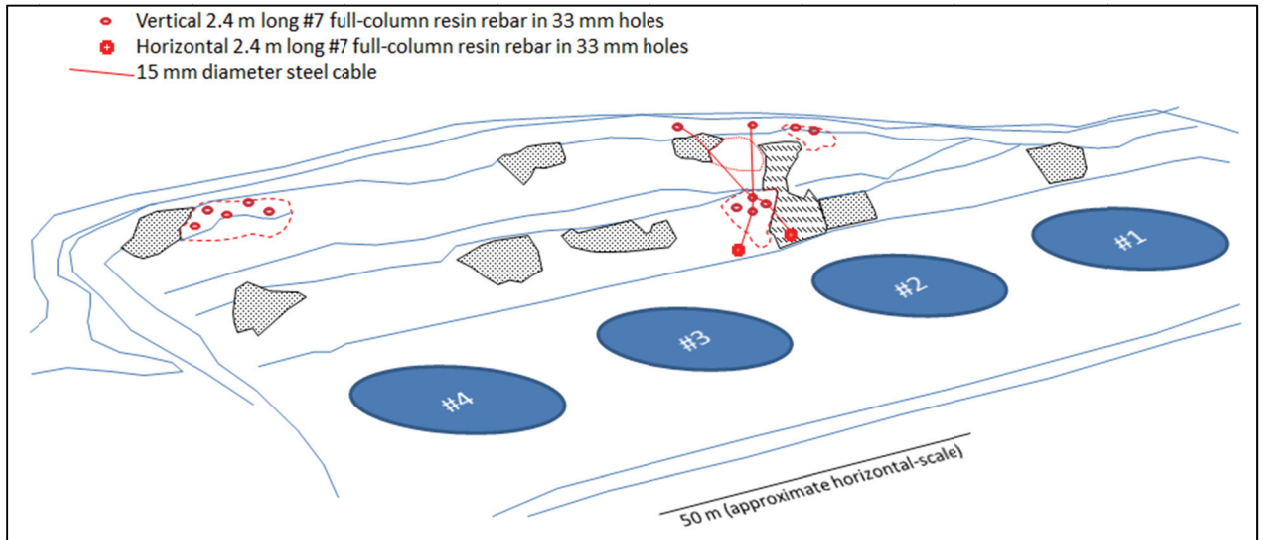

Figure 5: Option-B, primary support recommendations for unstable blocks in RBTF slopes.
- Option-B (as illustrated in Figure 5) suggests rock-bolting of the upper bench crest blocks at a spacing to be determined on-site, and cables spanning the full slope height across the bolted lower-bench block, and;